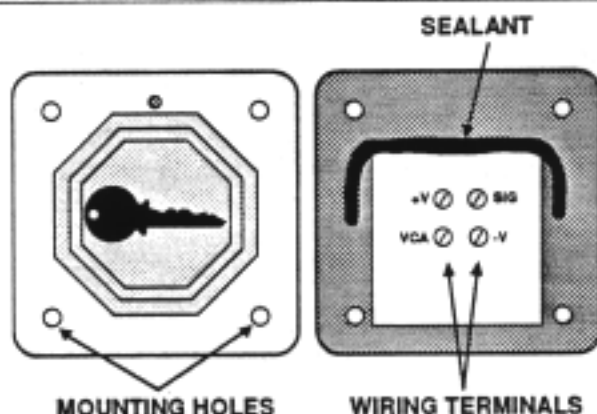

Figure 3: EK20 Vandal Resistant Reader
3. If the reader is going to be used outdoors, apply silicone sealant as shown in Figure 3.